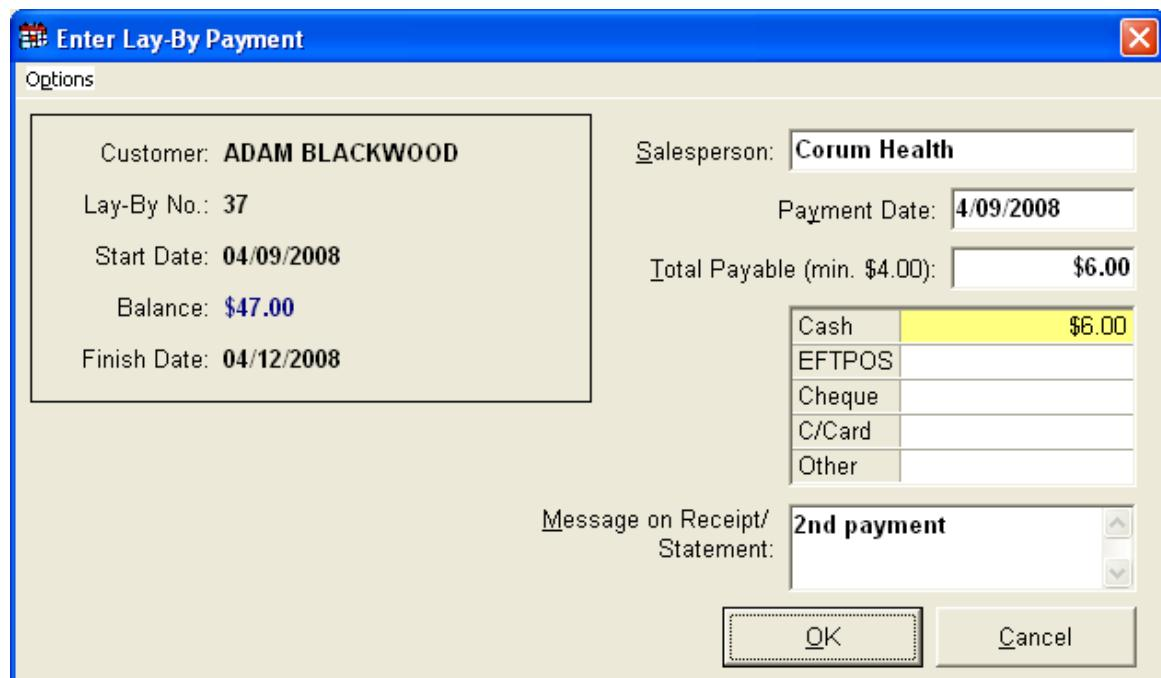

Figure 85
3. Once the correct Lay-By is displayed select ‘Enter New Payment (+)’. This will display the ‘Enter Lay-By Payment’ window (see Figure 85).
6. Enter the amount the customer wishes to pay, a minimum payment will be shown (see Figure 85).